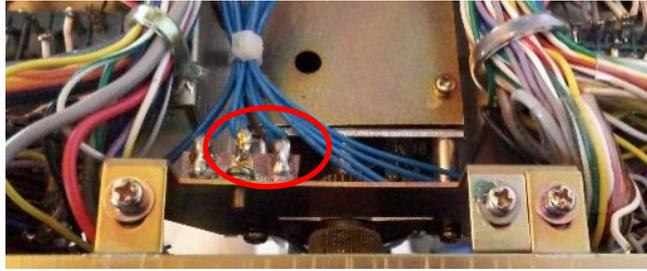

Figure 12
- Desolder the two scale lamps (four blue wires) on the connection block (see Figure 12) and the PB1471 PCB (one violet wire) on the CHANNEL rotary switch.